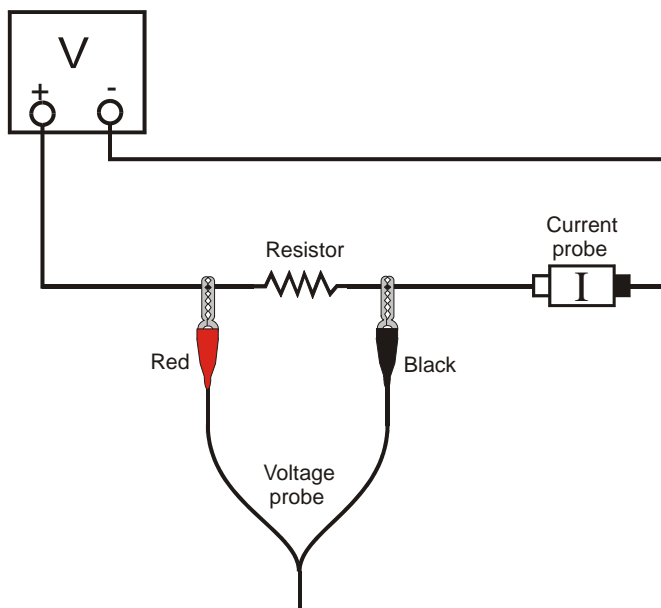

Figure 1
- d. Select CV CURRENT (A) from C V SYSTEM.
- g. Select CV VOLTAGE (V) from C V SYSTEM.
5. With the power supply turned off, connect the power supply, 10- Ω resistor, wires, and clips, as shown in Figure 1. Take care that the positive lead from the power supply and the red terminal from the Current & Voltage Probe are connected as shown in Figure 1. **Note:** Attach the red connectors electrically closer to the positive side of the power supply. Have your instructor check the arrangement of the wires before proceeding.